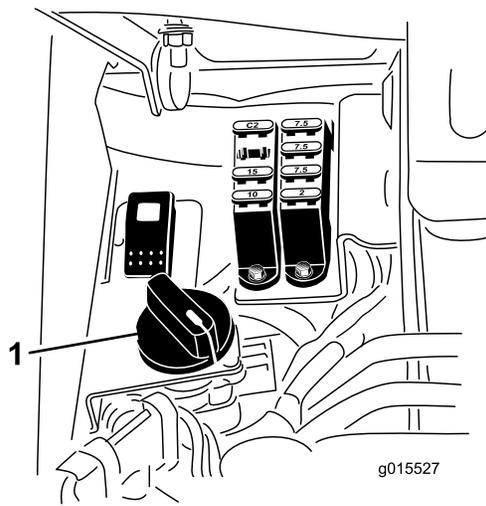

Figure 41
4. To set the reel speed, rotate the knob (Figure 41) until the indicator arrows are in line with the number designating desired setting.